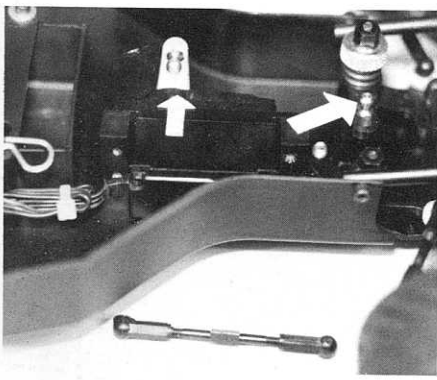

Fig. 132
□ Fig. 132 From bag #8-6 remove the #6262 1.65" turnbuckle. From bag #8-14 remove two #6274 plastic ball end cups. Thread the ball end cups onto the turnbuckle, making sure they are installed evenly. On this turnbuckle one ball end cap will be facing down and the other will be facing to the left.